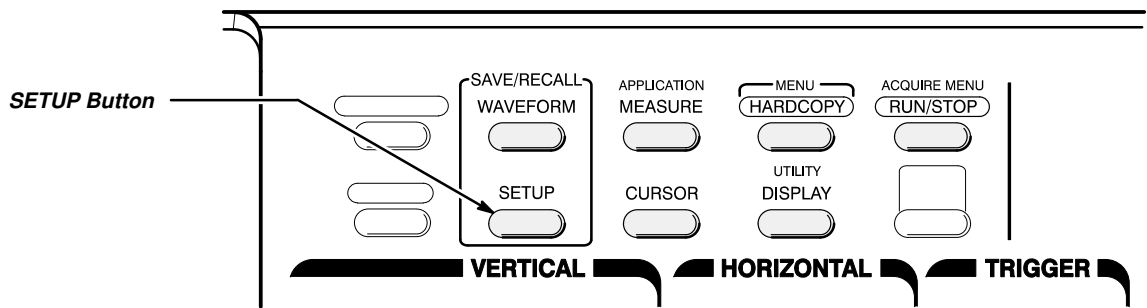

Figure 1-2: SETUP Button Location
1. Press the save/recall **SETUP** button to display the Setup menu (Figure 1-2).